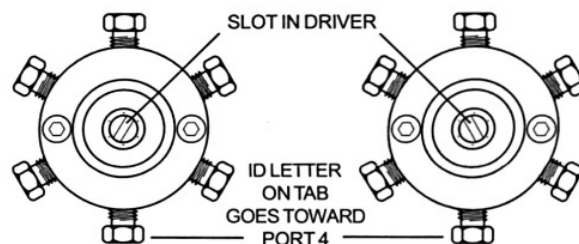
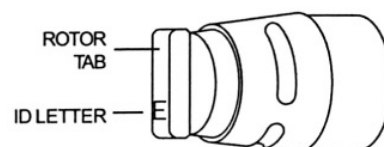

Figure 4: C6W valve with preload and rotor removed, viewed from preload end
Figure 5: Location and orientation of the ID letter
1. Place the clean rotor on the pencil magnet and orient it so that the tab will properly engage the slot of the drive mechanism. The list in Figure 5 shows how to orient the ID letter for different Valco valves. (A C6W is shown in Figure 4.)
2. Insert the rotor into the valve body, again being careful that the tab doesn't touch the polished interior of the valve body. Make sure the rotor tab (Figure 4) is fully inserted into the slot in the driver. Using a pencil or other small pointed object, hold the rotor in place in the valve body while the magnet is pulled free.